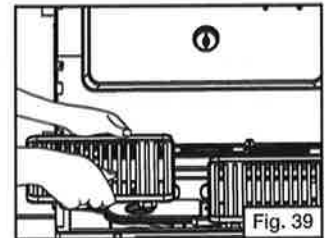

Fig. 39
2. Remove the cooking grates set aside. (Fig. 39)